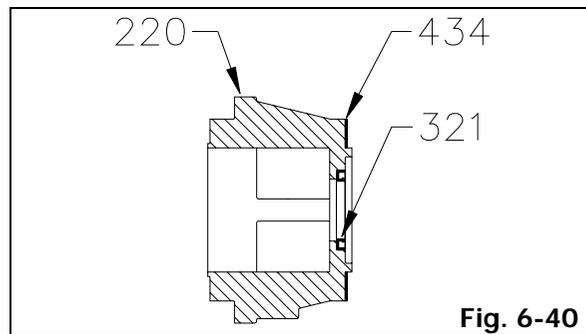

Fig. 6-40
1. Place a new frame adaptor gasket (434) on frame adaptor (220).
2. Coat oil seal (321) seat surface with oil. Press oil seal (321) into frame adaptor (220) by hand until the shoulder of the seal is fully seated against the frame (Fig. 6-40).